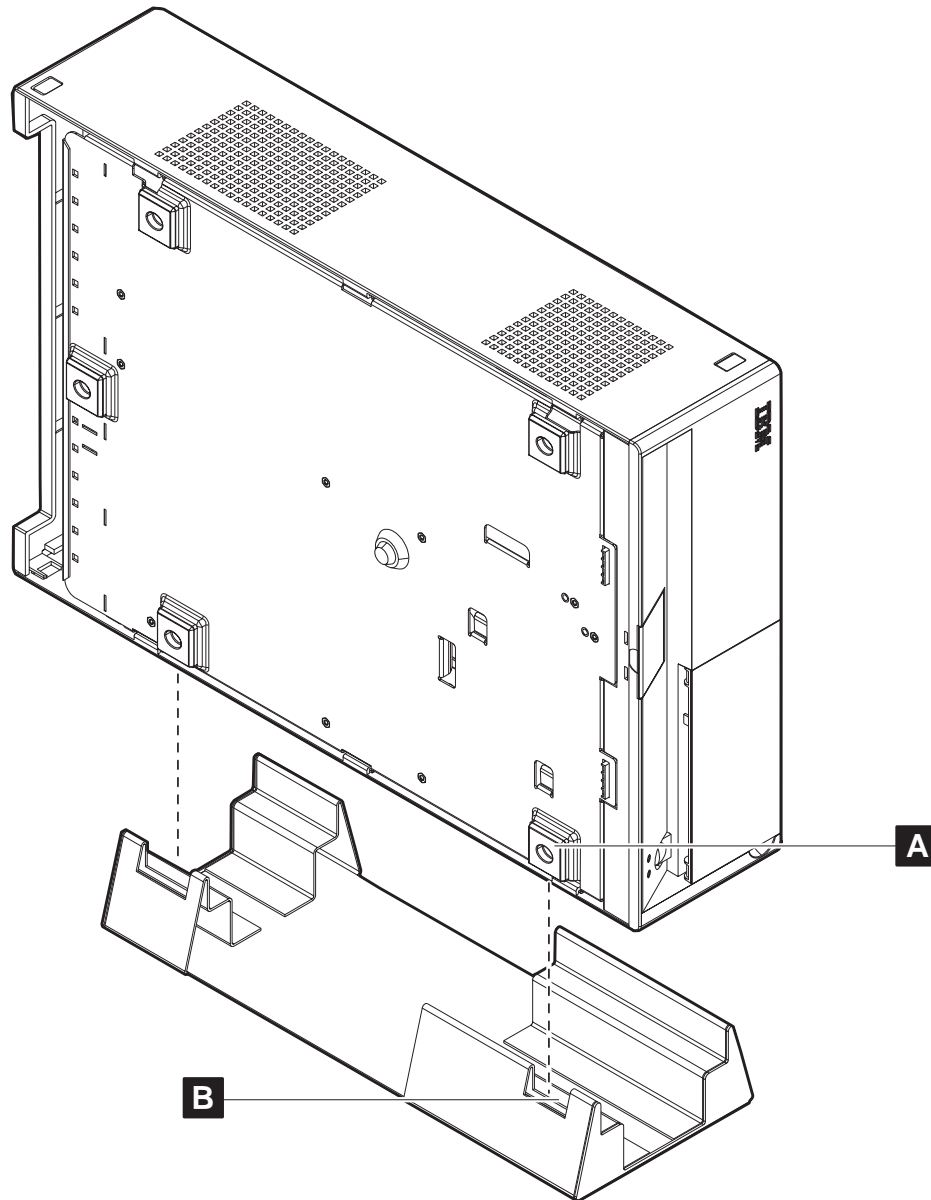

Figure 79. Placing the system unit on the vertical stand
2. Position the system unit on the vertical stand as shown in Figure 79 on page 76. The front bezel door should be located closer to the stand with the air vents on top and unobstructed.